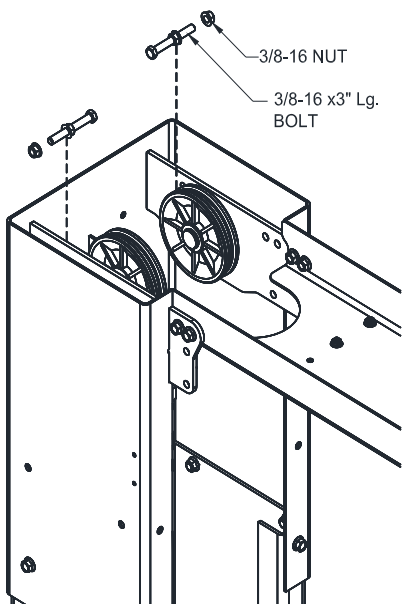

Fig. 8 – Column Ext. Cable Trapping
- 23) Route free end of cables up and over the upper sheaves and back down the opposite side. At the upper sheave locations, disassemble and reassemble the cable trapping hardware after cables are routed around sheaves, **Fig. 8**.